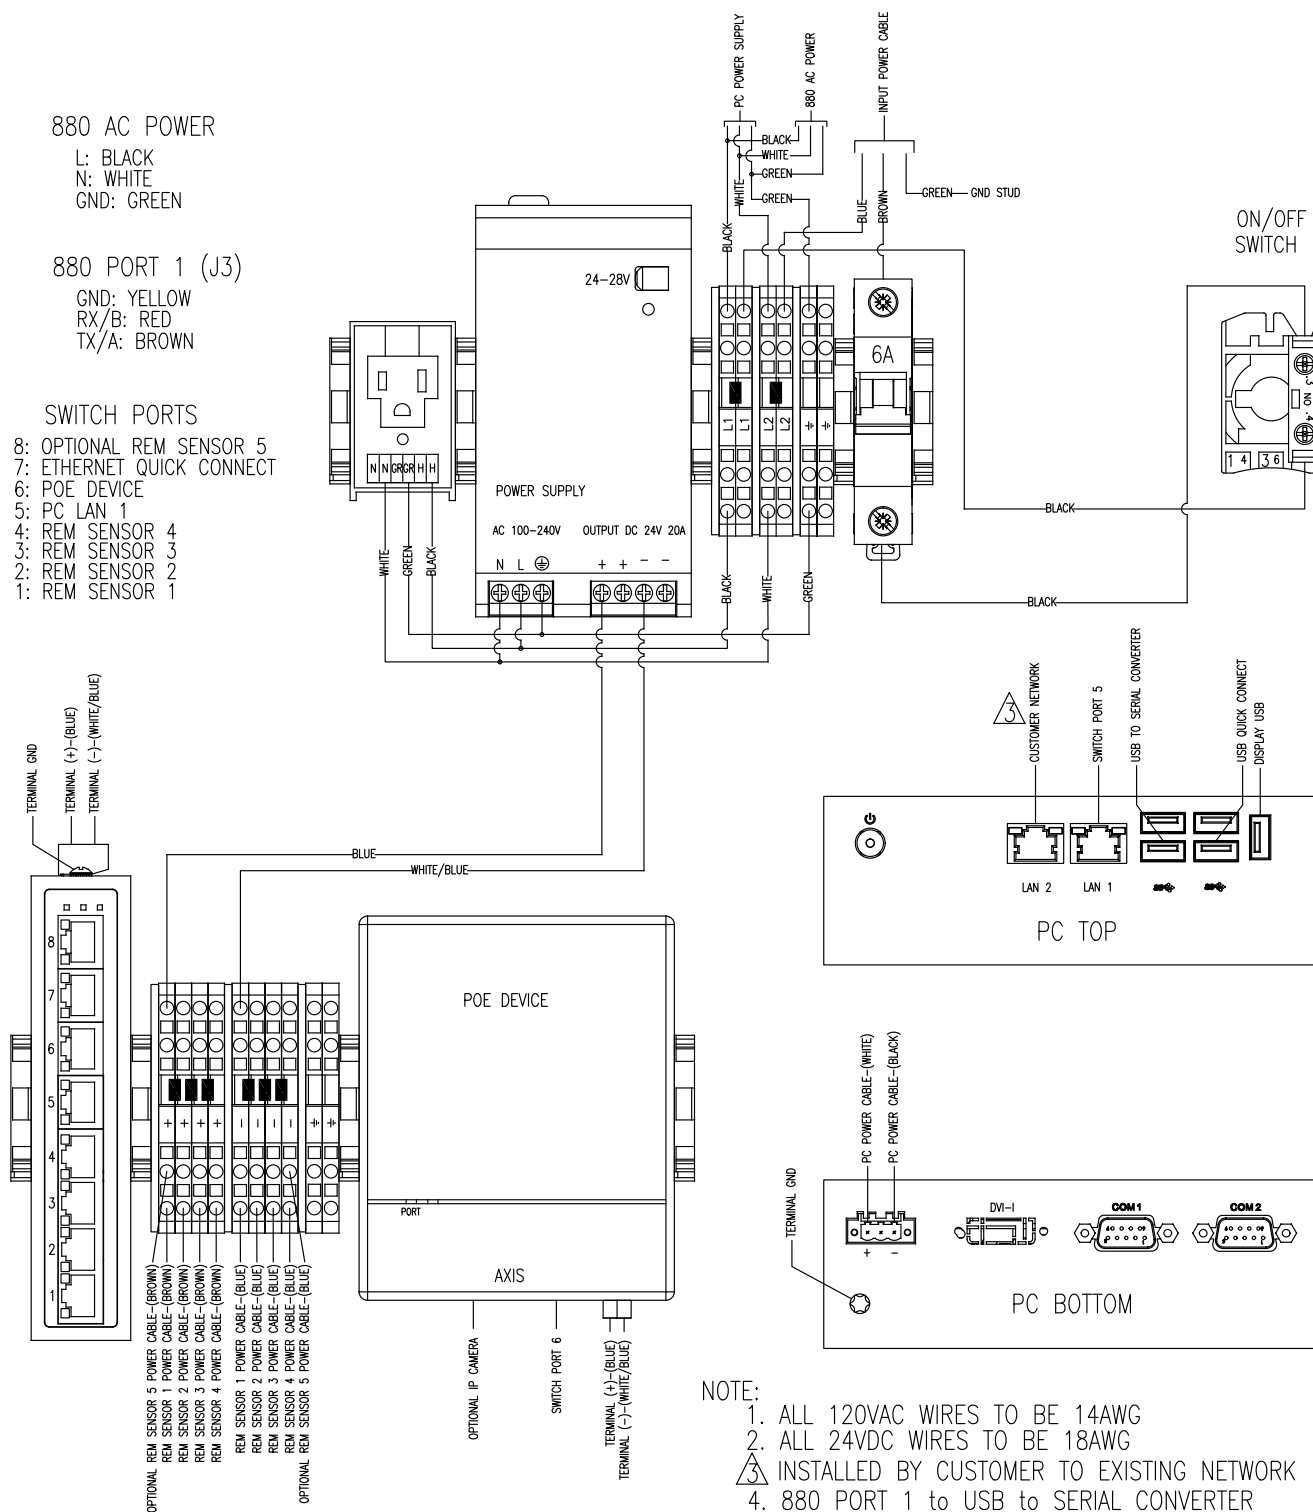

Figure 3-20. 880 Wiring Diagram
8. Strip and wire the SUMMIT 3000 scale homerun cable to the indicator (Figure 3-20 for 880 Indicator and Figure 3-21 on page 27 for 1280 Indicator).